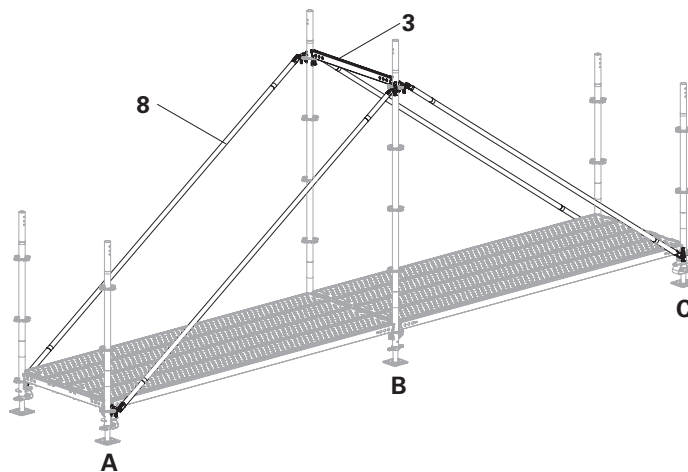

Fig. A1.05
1. Fit the Node Braces UBK-2 300/200 (**8**) onto the edge frame columns (**A + C**) using the lowest rosettes of the top standards. Fit them onto the rosettes on the centre frame column (**B**) at a height of 2 m. (Fig. A1.05)
1. Connect the top standards (**B**) at a height of 2 m in the transverse direction with Horizontal Ledger UH-2 100 (**3**). (Fig. A1.05)